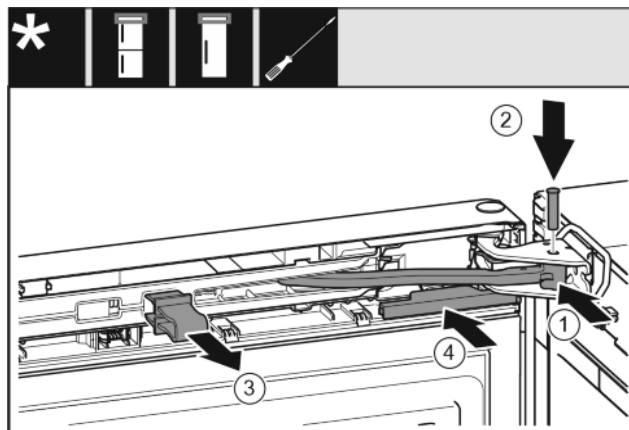

Fig. 39
- ▶ Turn the hinge in the bearing bracket. *Fig. 39 (1)*
- ▶ Insert the bolt in the bearing bracket and hinge. Make sure that the latching lug sits correctly in the groove. *Fig. 39 (2)*
- ▶ Remove the locking device. *Fig. 39 (3)*
- ▶ Slide on the cover. *Fig. 39 (4)*